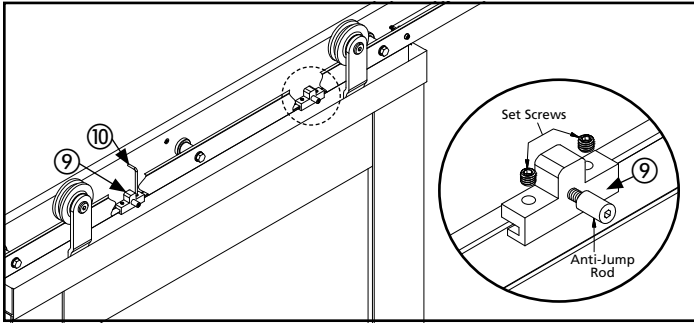

Figure 24. Trigger Installation
5. Secure the triggers ⑨ in place with the set screws using the supplied 3mm Allen wrench ⑩ as seen in Figure 24.